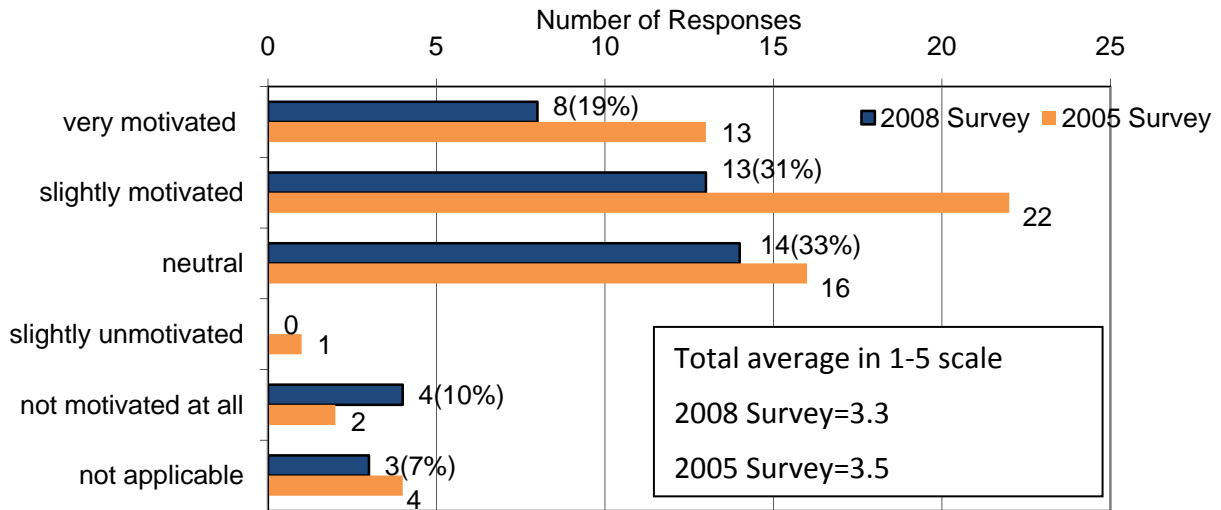

Figure 2.6 Results of 2008 Alumni Survey question: *Do you feel that studying at UNLV made you motivated to gain professional registration?*
Part 2: Preparation: Figure 2.6 and 2.7 show the responses to the questions indicating the success of our program outcome “3.d Seeking Professional Licensure” under the educational objective “Instilling a sense of responsibility as a professional member of society”. These responses were evaluated in the same scale as others using (1)-(5) scale. In Figure 2.6, a scale of 5 is for *very motivated* and 1 for *not motivated at all*. In Figure 2.7, a scale of 5 is for *much more prepared*, and 1 for *much less prepared*. Averaged responses in (1)-(5) scale are 3.3 and 3.2 in the 2008 survey respectively, and 3.5 and 3.3 in the 2005 survey, which indicate that the program achieved educational objective 3 “Instilling a sense of responsibility as a professional member of society”.
- Do you consider that studying at UNLV made you prepared to enter the workforce compared to graduates of other universities? (See Figure 2.6)	3.2